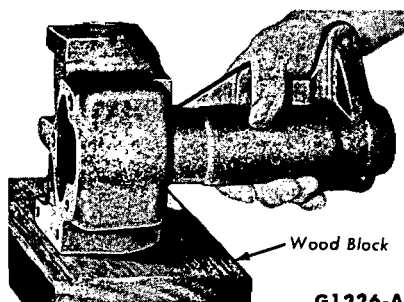

FIG. 17—Removing Lower Bearing Cup from Housing
5. Remove the lower bearing and cup from the housing. It may be necessary to tap the housing on a block of wood (Fig. 17) to loosen it from the housing.